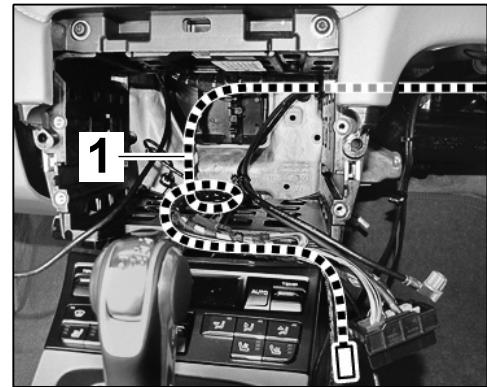

Figure 8
2.3.3 Route GPS antenna line  $\Rightarrow$  Figure 8